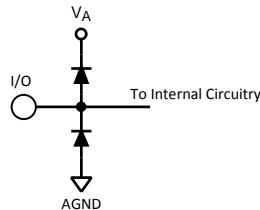

Figure 2.
- (1) The inputs are protected as shown below. Input voltage magnitudes above  $V_A$  or below GND will not damage this device, provided current is limited per Note 4 of the Absolute Maximum Ratings Table. However, errors in the A/D conversion can occur if the input goes above  $V_A$  or below GND by more than 100 mV. As an example, if  $V_A$  is +3.3V, the full-scale input voltage must be  $\leq +3.4V$  to ensure accurate conversions. See Figure 2.
- (2) To ensure accuracy, it is required that  $|V_A - V_D| \leq 100$  mV and separate bypass capacitors are used at each power supply pin.
- (3) With the test condition for  $V_{REF} = +1.0V$  (2VP-P differential input), the 12-bit LSB is 488  $\mu V$ .
- (4) Typical figures are at  $T_J = 25^\circ C$ , and represent most likely parametric norms. Test limits are to AOQL (Average Outgoing Quality Level).
- (5) Integral Non Linearity is defined as the deviation of the analog value, expressed in LSBs, from the straight line that passes through positive and negative full-scale.
- (6) Optimum performance will be obtained by keeping the reference input in the 0.8V to 1.2V range. The LM4051CIM3-ADJ (SOT-23 package) is recommended for external reference applications.
- (7) This parameter is specified in units of dBFS - indicating the equivalent value that would be attained with a full-scale input signal
- (3) With the test condition for  $V_{REF} = +1.0V$  ( $2V_{P-P}$  differential input), the 12-bit LSB is 488  $\mu V$ .
- (4) Timing specifications are tested at TTL logic levels,  $V_{IL} = 0.4V$  for a falling edge and  $V_{IH} = 2.4V$  for a rising edge.
- (5) Typical figures are at  $T_J = 25^\circ C$ , and represent most likely parametric norms. Test limits are to AOQL (Average Outgoing Quality Level).
- (6) This parameter is ensured by design and/or characterization and is not tested in production.